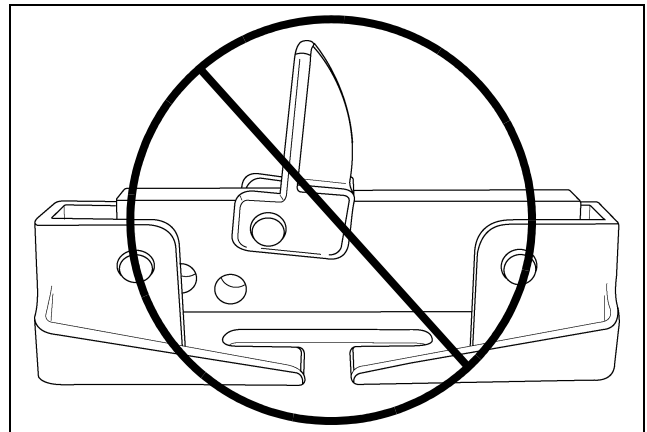

Figure 4N Incorrect position of the load cell spacer. Note how the load cell top bracket is too far from the load cell base.
4. DO NOT position the spacer as in Figure 4N. The top load cell bracket is too far from the cell base and too close to the center of the spacer, which puts the bin leg out of alignment.